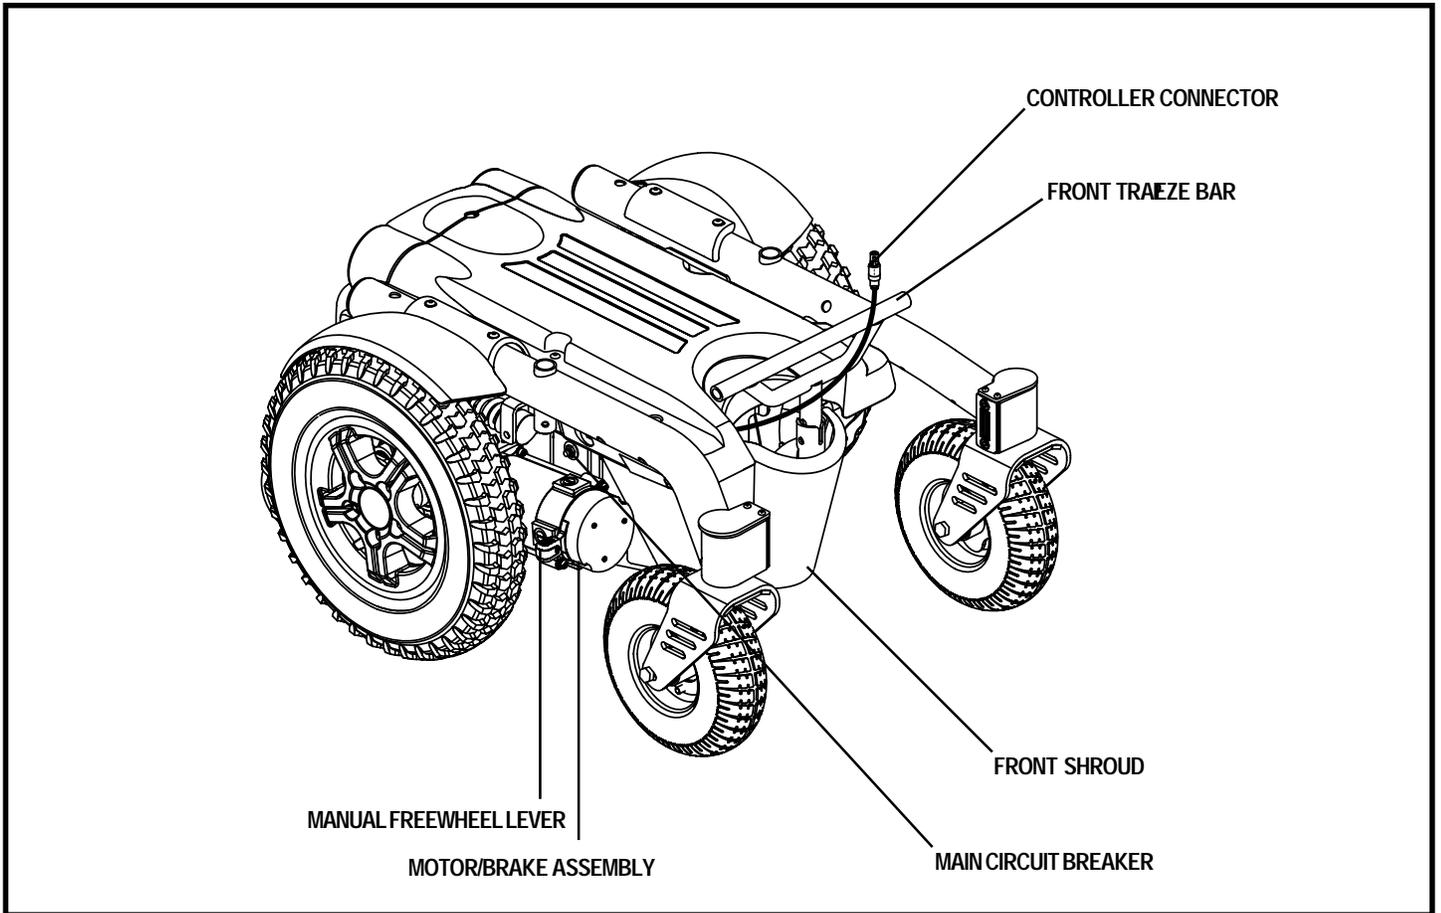

Figure 6. The Quantum R-4000 Series Power Base
The electrical components are located on the front of the power base or on the battery door at the rear of the power base depending on the chosen electrical system. See figures 6 and 7.
Controller Connector: This is where the controller connects to the power base. The controller connector is located at the front of the power base. See figure 6.
8. Plug the controller cable into the connector. See figures 6 and 7.